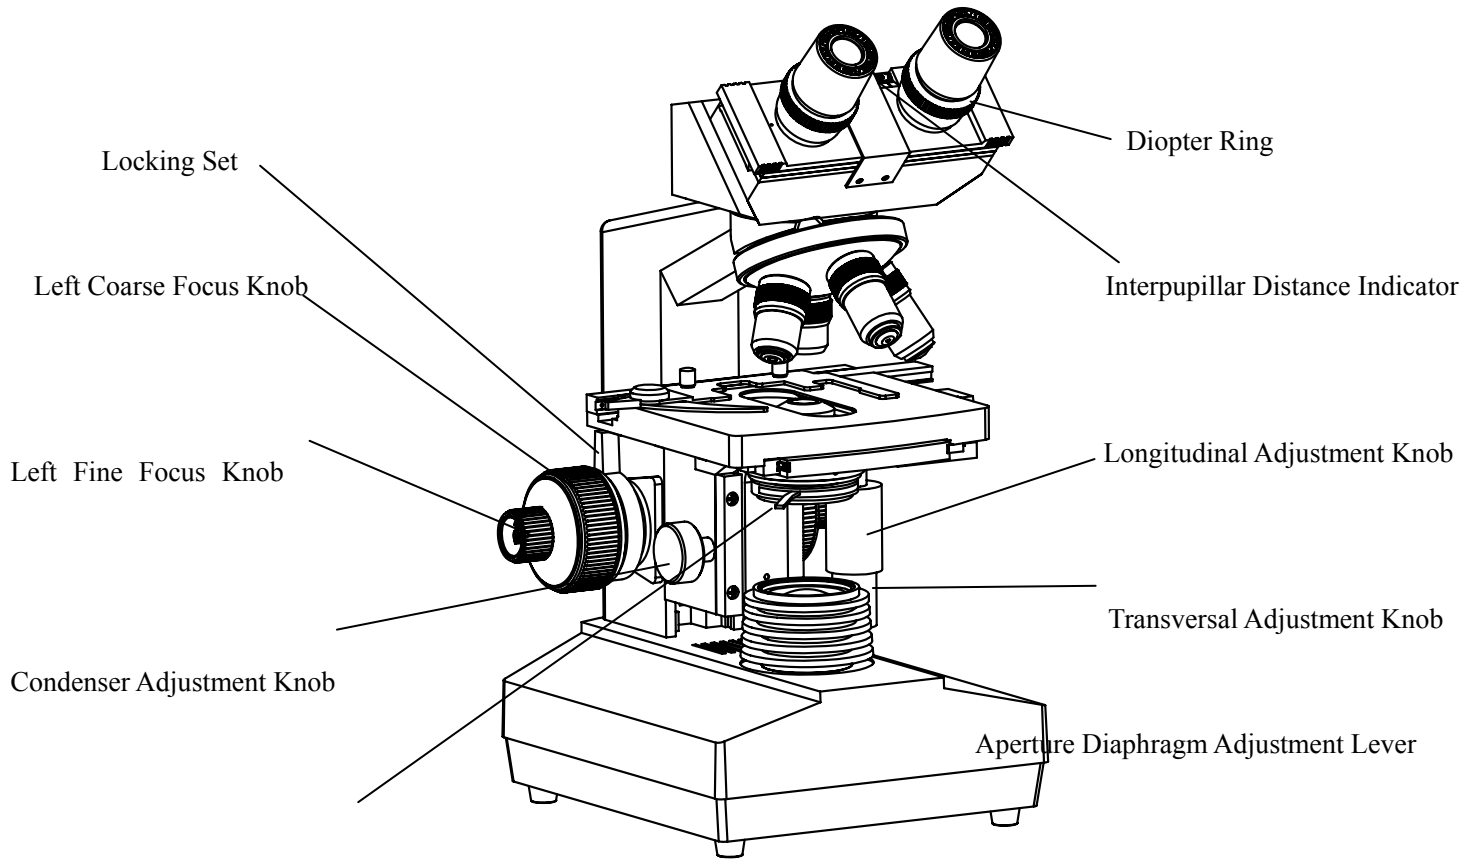
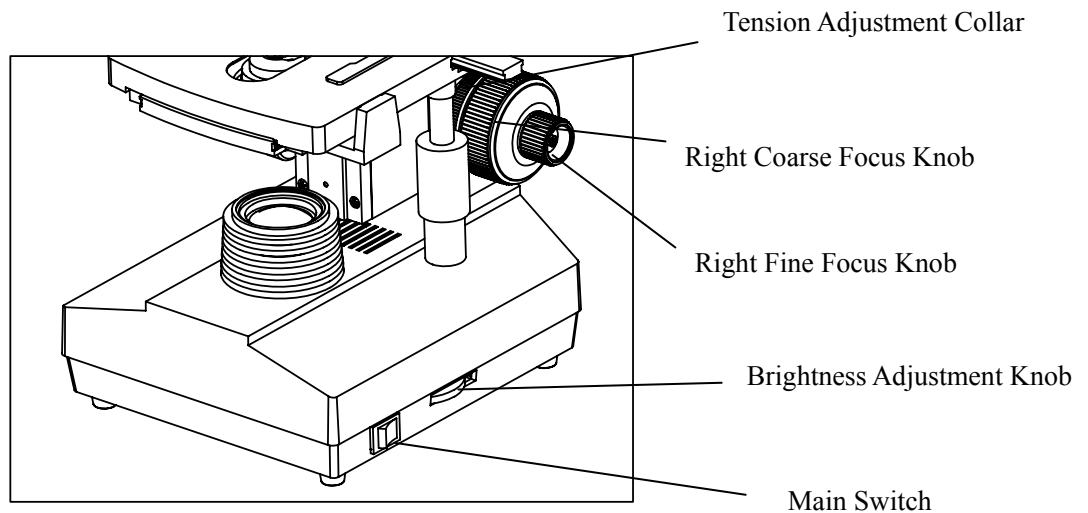

Fig.14
Fig.15
3.1 Adjustment Sets (Fig.14, Fig.15)
2. Turn the coarse focus knob ①conversely to lower the specimen and search images in the 10×ocular simultaneously, and then use the fine knob② to make focus. After that, you can replace with other magnification objectives safely, and focus without the risk of damaging the specimen.
3. When the specimen is focused, tighten the locking set (in Fig.14) to give a height limit to the stage .In this way, the stage only can lower, avoiding false operation and damage to the specimen.